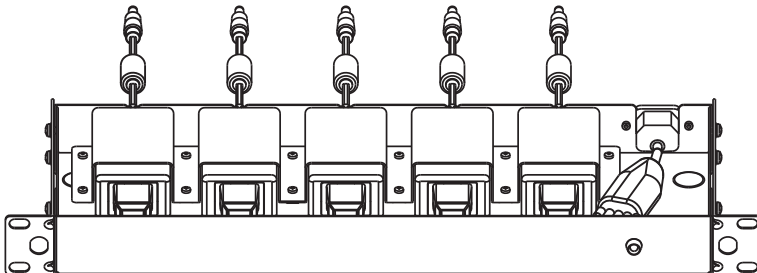

Fig. 4
- Place the fixed cover over the installed power supplies and screw them on the chassis, as shown in Fig. 4.